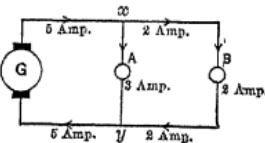
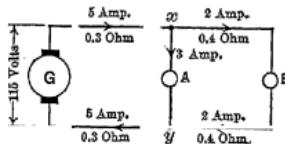

FIG. 63. The line current between the generator and lamp *A* is 5 amperes while the line current between the lamps is only 2 amperes.
FIG. 69. The voltages across the lamps are different.
Suppose, as in Fig. 63, two lamps *A* and *B* are connected to a circuit in such a way that *A*, taking 3 amperes, is much nearer the generator than *B*, which takes 2 amperes. Then in the section of the line which lies between *A* and *B*, 2 amperes must flow in order to supply lamp *B* with 2 amperes. But the section of the line between the generator and *A* must carry enough current to supply both lamp *A* and lamp *B*. Thus this section must carry 5 amperes.
24. Voltage Required for the Line. Line Drop. Let us assume that a circuit, Fig. 69, is arranged as in Fig. 63, except that the resistance of the line wires and the generator voltage are introduced. The wires from the generator G to the lamp A each have a resistance of 0.3 ohm. The wires from the lamp A to the lamp B each have a resistance of 0.4 ohm.